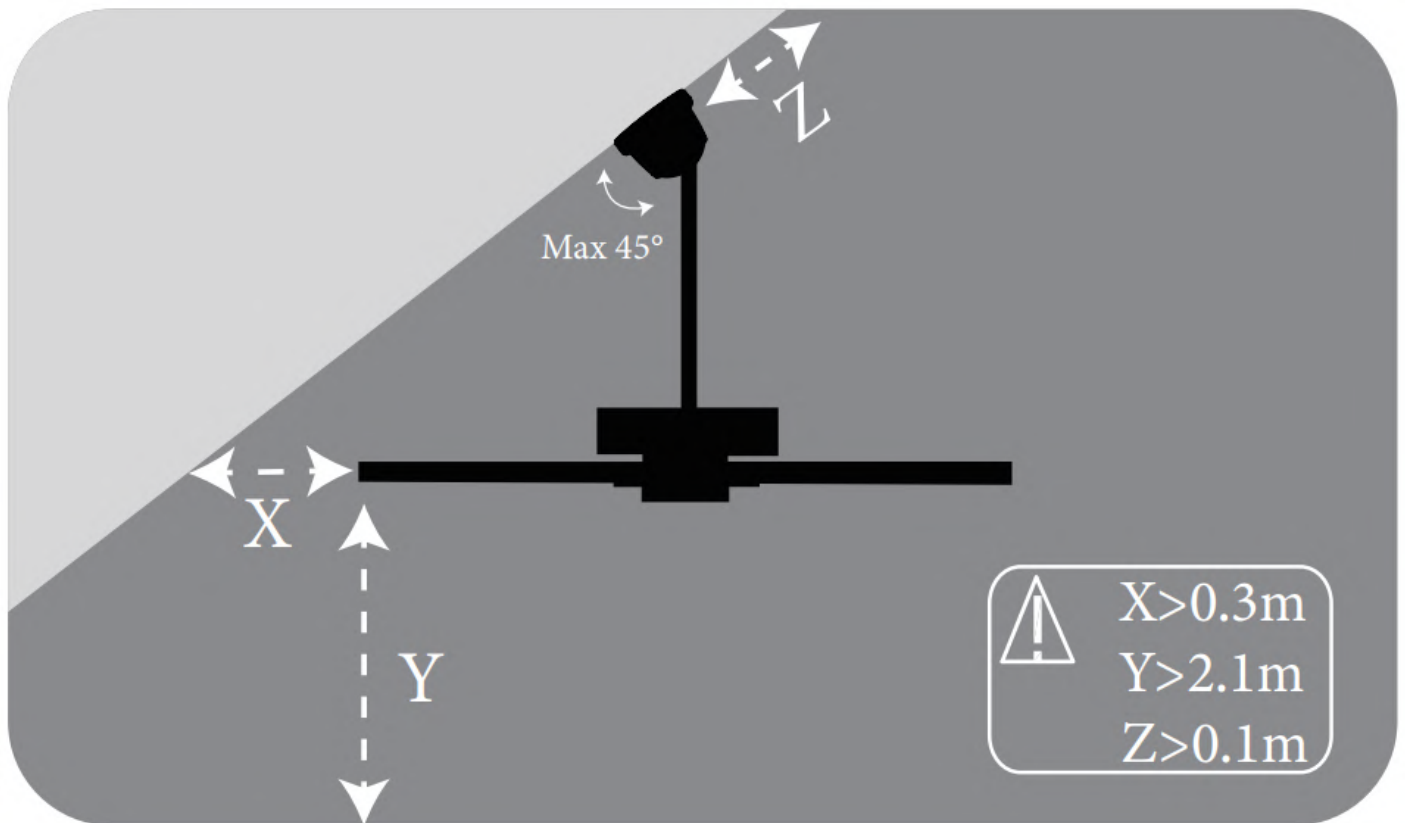

Fig. 2
NOTE: Before installing this ceiling fan angle canopy, please check the installation site and requirements and ensure that the conditions as shown in the following figure are met. (Fig.2)
- This fan hanging system supports a maximum **45-degree** angled ceiling installation. (Fig.2)
- The ceiling fan must be installed in a location so that the blades are spaced 300mm from the tip of the blade to the nearest objects or walls. (Fig.2)
- The fan should be mounted so that the blades are more than 2.1m above the floor. (Fig.2)
- This ceiling fan angle canopy must be installed in a location so that the canopy is spaced at least 10mm from the edge of the canopy to the flat ceiling. (Fig.2)